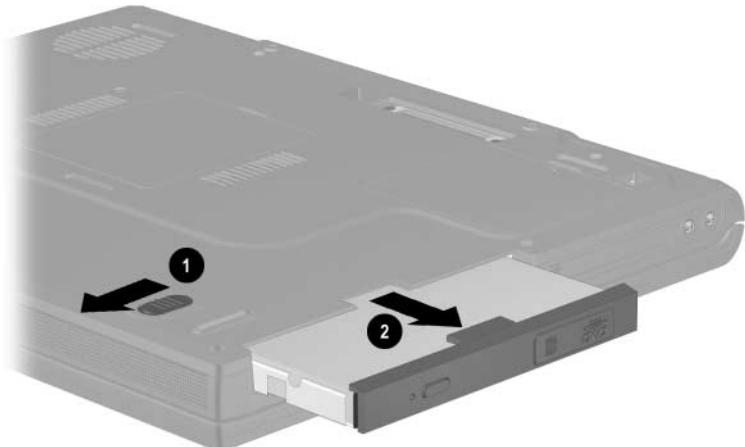

Figure 5-4. Removing a MultiBay Device
- b. Slide and hold the MultiBay release latch toward the front of the computer ① (Figure 5-4).
- c. Use the notch in the MultiBay device to slide the device out of the MultiBay ②.